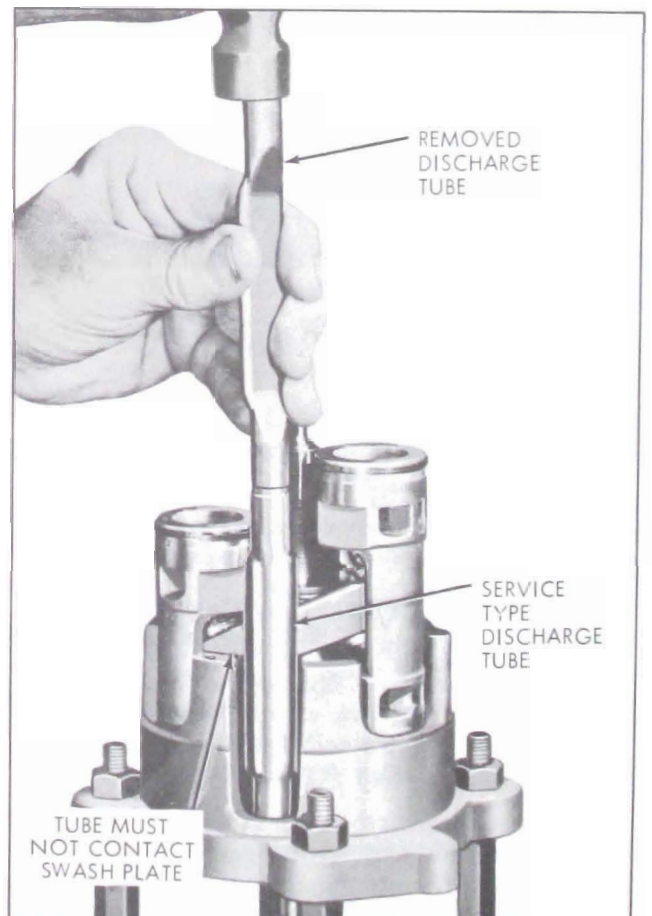

Figure 11-115—Installing Service Type Discharge Tube
4. Assemble one end of service discharge crossover tube into hole in front cylinder. See Figure 11-115.